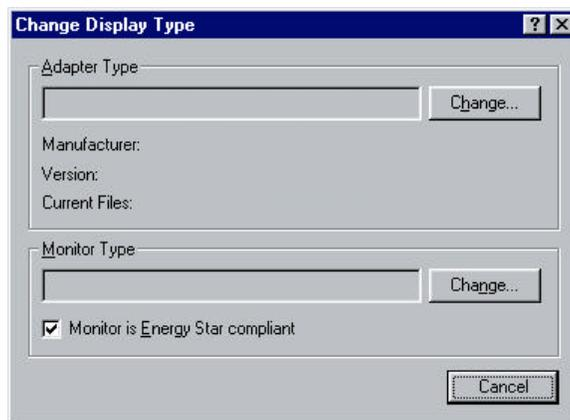

Figure 8: Change Display Type
5. Click the “Change Display Type...” button in the lower right corner of the “Settings” page. The Change Display Type window appears (Figure 8).